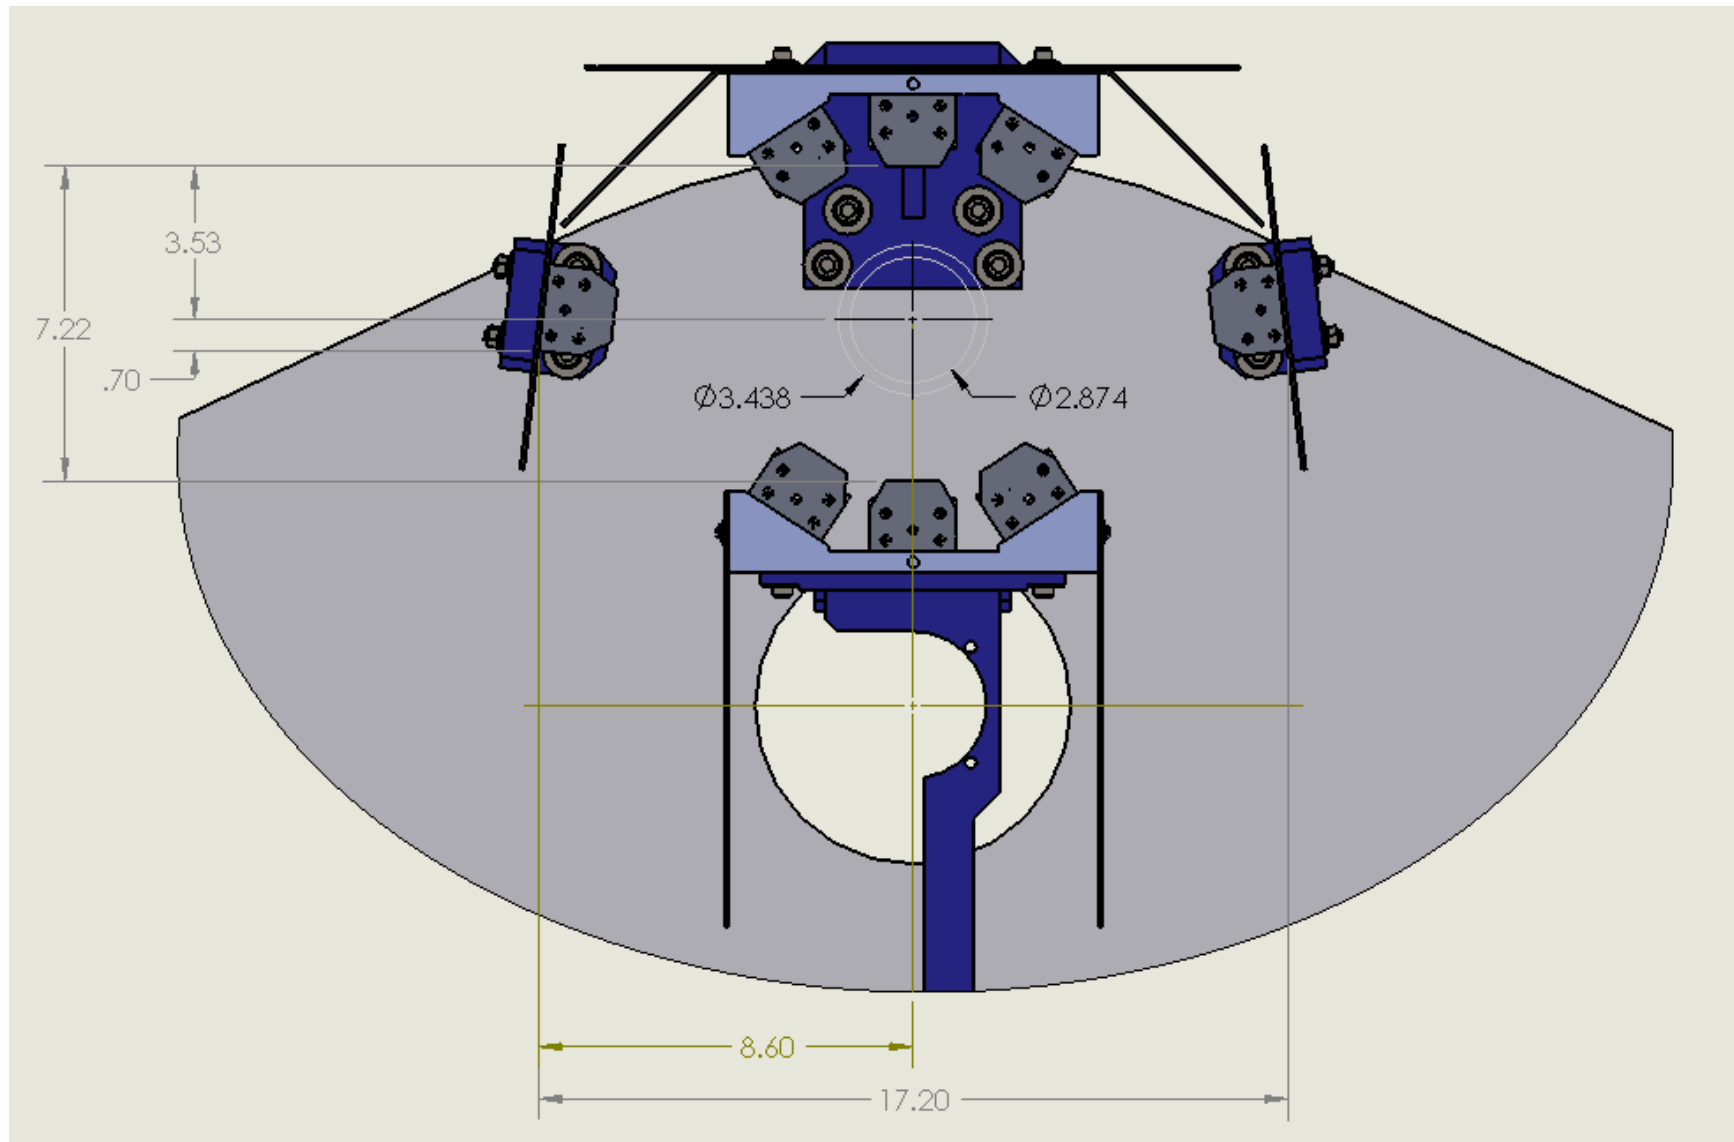

Figure 2 – Light and Bracket locations
14. It is also critical that the TL102As and the TL102ALs are in position and centered with the can in its top most position as shown in figure 2.